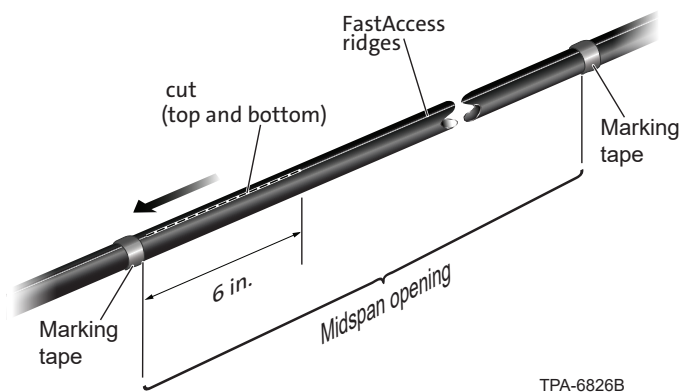

Figure 12
**Step 1:** Mark two locations on the cable to identify mid-span opening required (Figure 12).